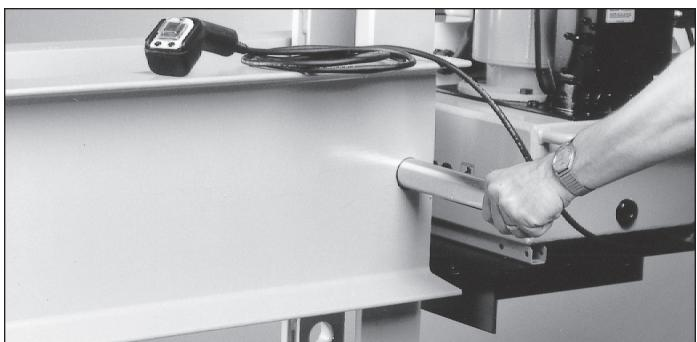

**Figure 7**
7. Pump bed lifting jack until the remaining bed pin becomes loose. See Figure 7.